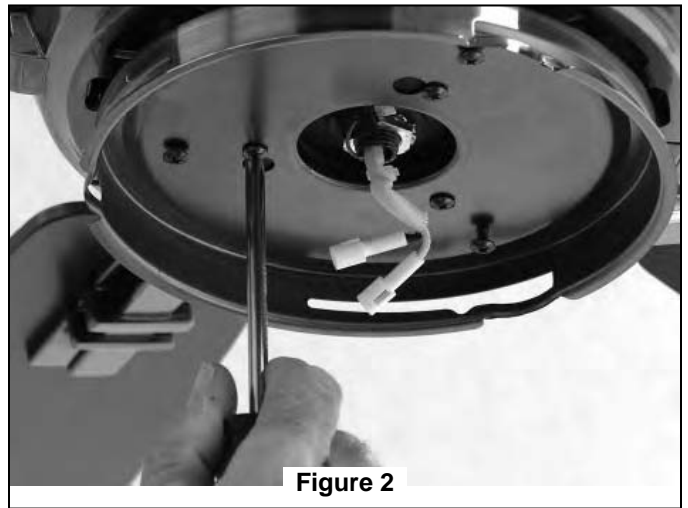

Figure 2
5. Route wires through Motor Coupling Cover (Fig 2) or the Decorative Sleeve (Fig 3) and through opening in Canopy. Position Canopy on fan shown with open side facing up. (Figure 4)
7. While pulling up on the hanger ball, securely tighten the two setscrews with nuts in the downrod support. (Figure 2 & 3)
8. Slide the Motor Coupling Cover (Fig 2) or the Decorative Sleeve (Fig 3) down until it touches the top of the Housing.
1. Securely attach the hanger bracket to the outlet box using the outlet box screws and washers supplied with the outlet box (Figure 2).
3. Carefully lift the fan and seat the downrod/hanger ball assembly on the hanger bracket that was just attached to the outlet box (Figure 3). Be sure the groove in the ball is lined up with tab on the hanger bracket (Figure 2).
- Slide Receiver Unit into the Hanger Bracket (Fig 2).
4. With a Phillips screwdriver, tighten washer-head screws with fiber washers. Do not over-tighten. (Figure 2)
2. Securely attach the Adapter Plate to the Support bracket and tightening three screws. (Figure 2)